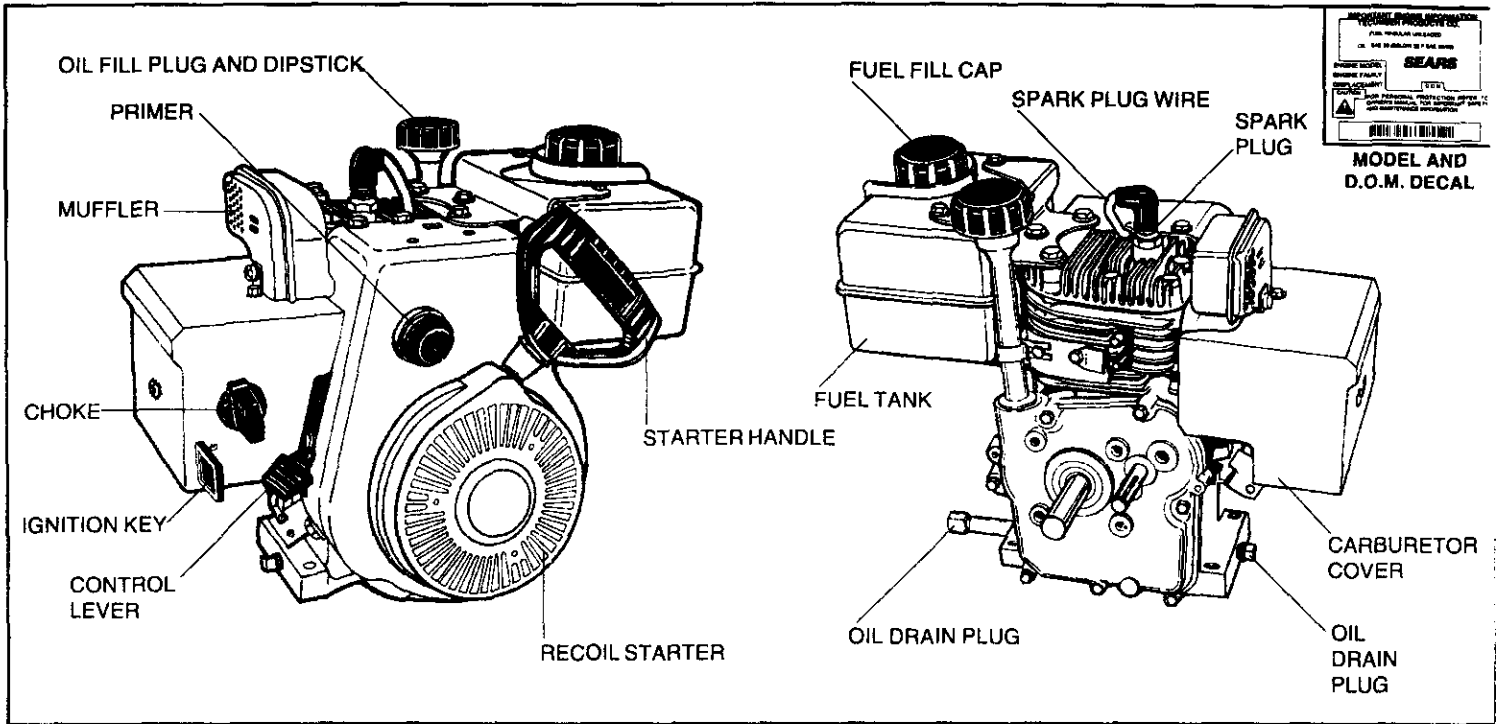

Figure 1
- B. Clean area around OIL FILL PLUG (see Figure 1).
④ CHECK THE FOLLOWING:
B. Be sure SPARK PLUG WIRE is attached to SPARK PLUG (see Figure 1).
NOTE: If engine is used for anything except snow removal, the CARBURETOR COVER (see Figure 1) must be removed, and an approved air cleaner installed. See your nearby Sears Roebuck and co. (or Sears Canada, Inc.) Service Center.
① RECOIL STARTER (see Figure 1):